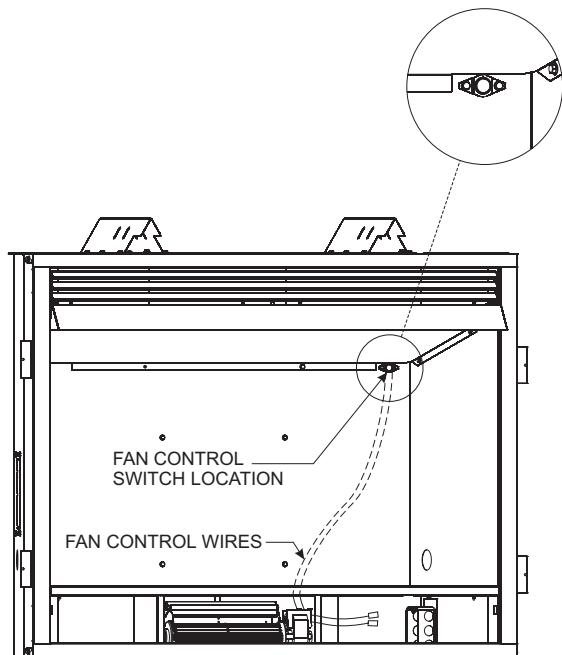

Figure 29
- Next, find the fan control switch and wire assembly. Feed the wires through the hole at the top of the firebox, and secure the fan control switch with (2) #6 screws provided. See **Figure 29**.
- The fan control wires will slide down between the firebox and outer wrap near the blower assembly. See **Figure 29**.